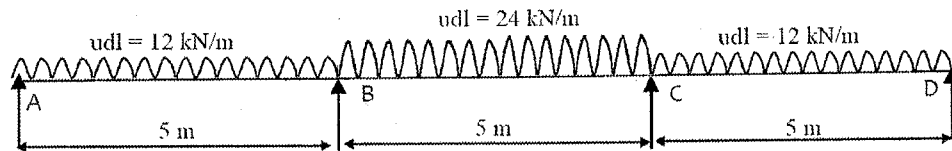

Figure Q3b
- (ii) Analyze the ABCD continuous beam shown in Figure Q3b using the slope deflection method (7 Marks) and draw the bending moment diagram (4 Marks) and the shear force diagram (4 Marks). ( $EI$  is constant) [Total 15 Marks]